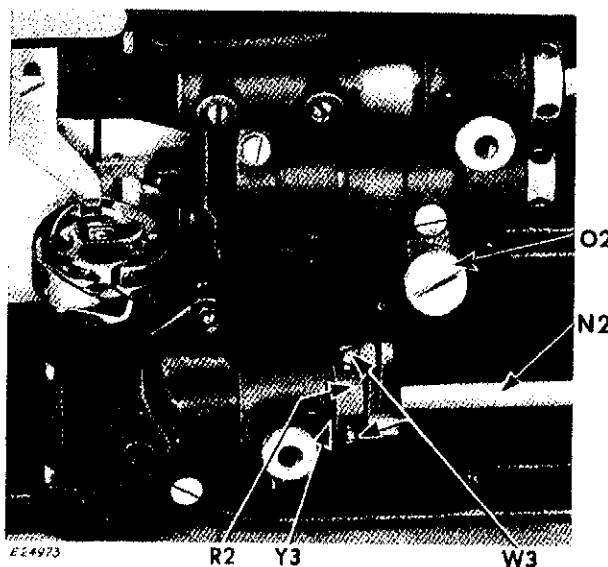

Fig. 51. Rotating Hook Driving Shaft
There should not be end play or binding in the rotating hook driving shaft **N2**, **Fig. 51**.
To remove end play or binding in the hook driving shaft **N2**, loosen the two screws **W3**, **Fig. 51**.
2. Slide shaft to the right and mount feed lifting eccentric **R2**, **Fig. 51** with collar adjacent to bearing **Y3**.